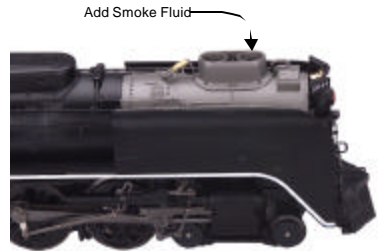

Figure 3. Add Smoke through the Smokestack
2. Prime the operating smoke unit with smoke fluid before operating. Add 15-20 drops of smoke fluid through the smokestack (see Fig. 3), then gently blow into the stack to eliminate any air bubbles in the fluid.
When preparing to run this engine, add 15-20 drops of smoke fluid through the smokestack (see Fig. 3). We recommend M.T.H. ProtoSmoke, Seuthe, LGB, or LVTS fluids. Do not overfill the unit or the fluid may leak out and coat the interior engine components.